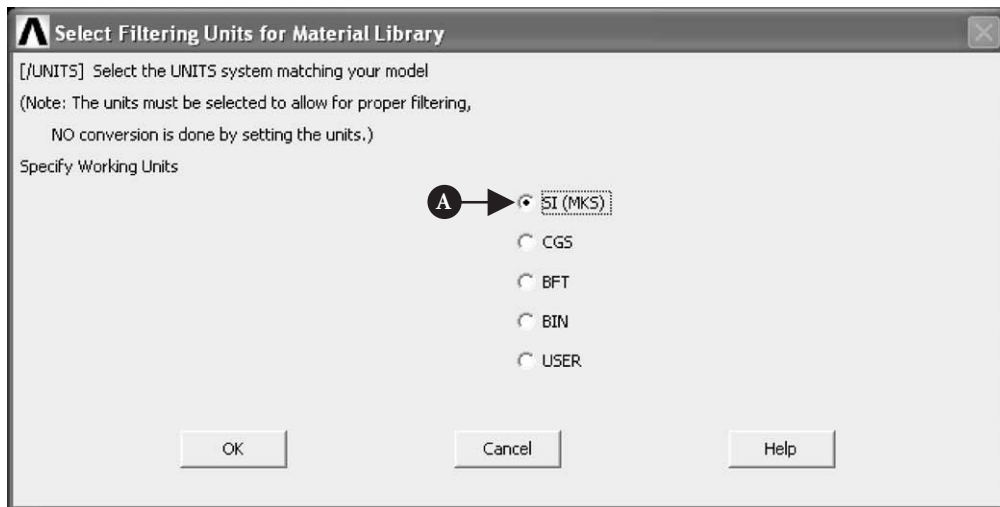

Figure 2.8 Selection of units for the problem.
cannot be set directly from the GUI. In order to set units as the international system of units (SI) from **ANSYS Main Menu**, select **Preprocessor** → **Material Props** → **Material Library** → **Select Units**. Figure 2.8 shows the resulting frame.